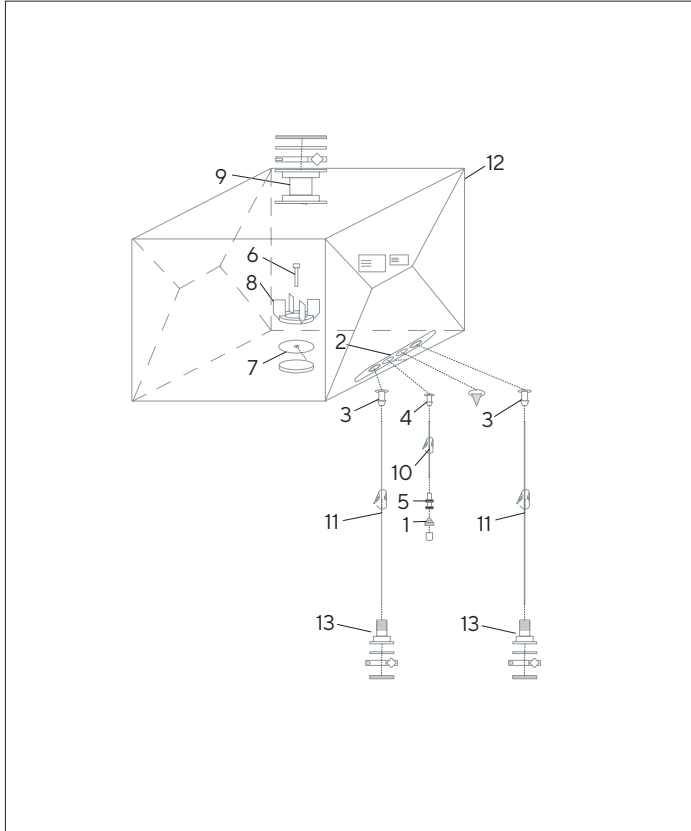

Figure 1: 50 L Flexsafe® Magnetic Mixer bag drawing and extract from the bill of material
- 50 L Flexsafe® Magnetic Mixer bag including PE port, TPE C-Flex® 374 tubing and Tuflux® silicone tubing (figure 1), sterilized by Gamma irradiation between 25 and 45 kGy.